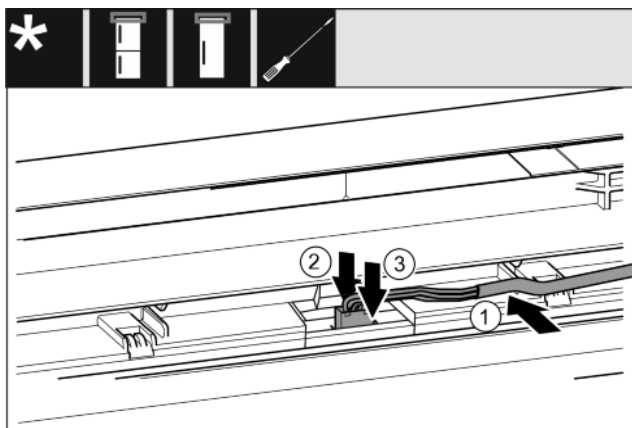

Fig. 35
- ▶ Insert the grey cable into the guide in the top door. Fig. 35 (1)
- ▶ Press back the latching lug Fig. 35 (2)
- ▶ Engage the plug. Fig. 35 (3)